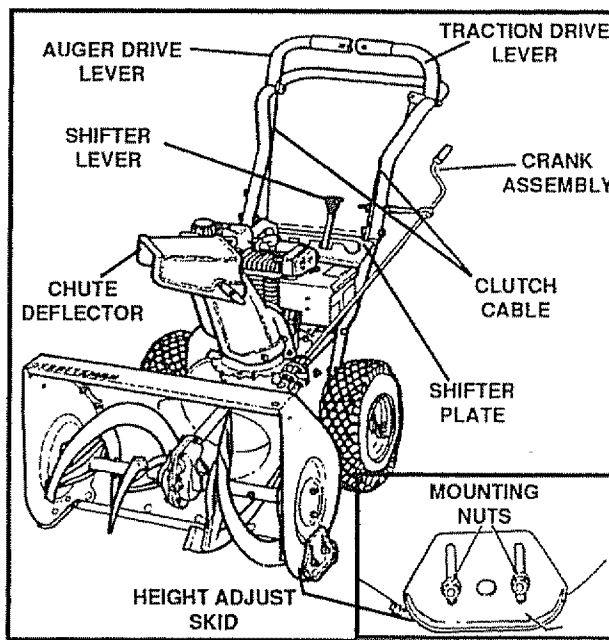

FIG. 2
Figure 2 shows the snow thrower completely assembled.
- Your snow thrower is equipped with height adjust skids (See Fig. 2) on the outside of the auger housing. To adjust the skid height for different conditions, see To Adjust Skid Height paragraph on page 18.